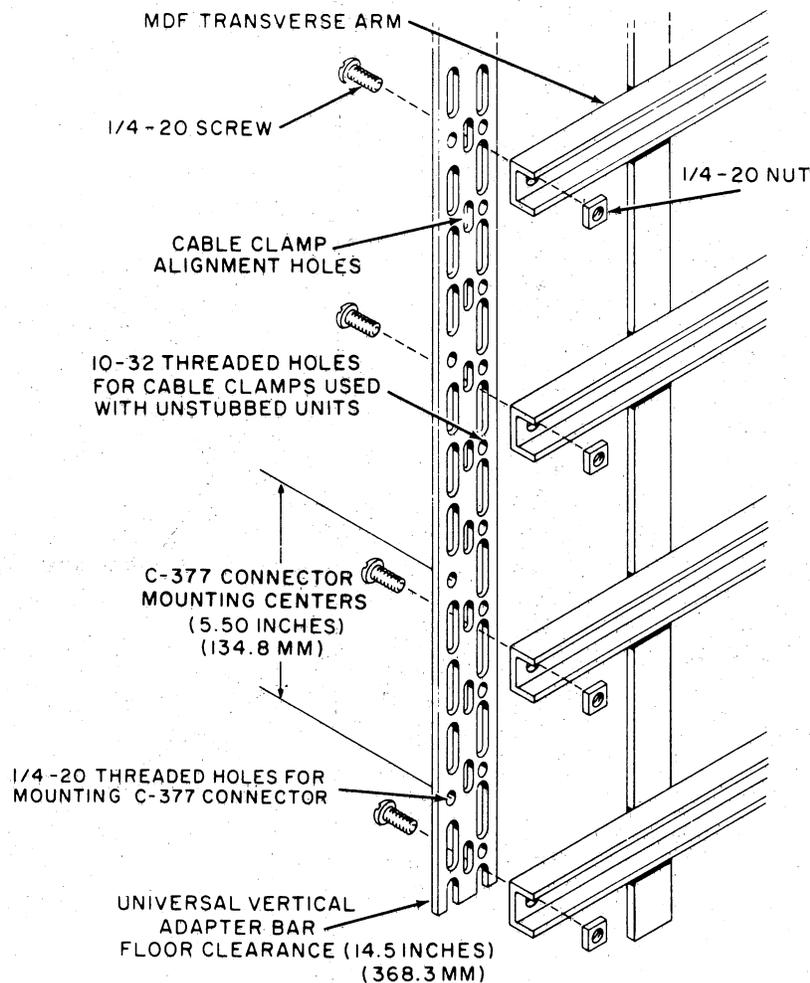

Figure 17. Installation of Universal Vertical Adapter Bar on MDF Transverse Arm
5.01 The C-377 Connector requires a Universal Vertical Adapter Bar to accommodate the compact spacing dimensions of the connector base. This adapter bar is used in place of the normal vertical (with 8-inch centers for mounting holes) by bolting to the ends of the transverse arms (see figure 17).
- e. Mount cable clamps on Universal Vertical Adapter Bar (see figures 17, 18, and 21), in the position desired for the C-377 Connector. Use screws removed in step (d).